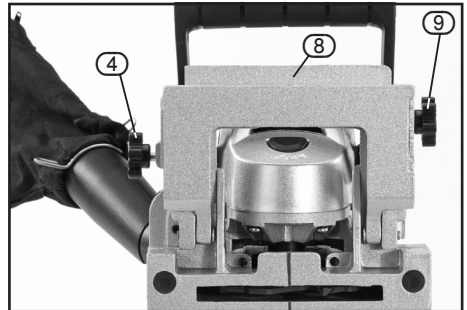

FIG.3
8.3 HEIGHT/ANGLE ADJUSTMENT – FIG. 3